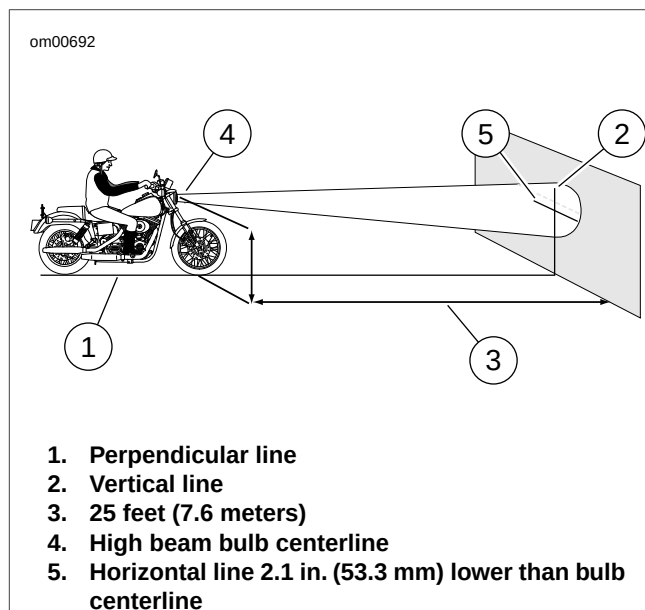

Figure 1-46. Checking Headlamp Alignment
See Figure 1-46. To aid in properly placing the motorcycle, a perpendicular line (1) can be drawn on the floor. For best results, choose an area with minimum light.
3. See Figure 1-46. Draw a vertical line (2) on the wall.
7. See Figure 1-46. Verify headlamp alignment. Turn the ignition switch to IGNITION and set the headlamp switch to HIGH beam.